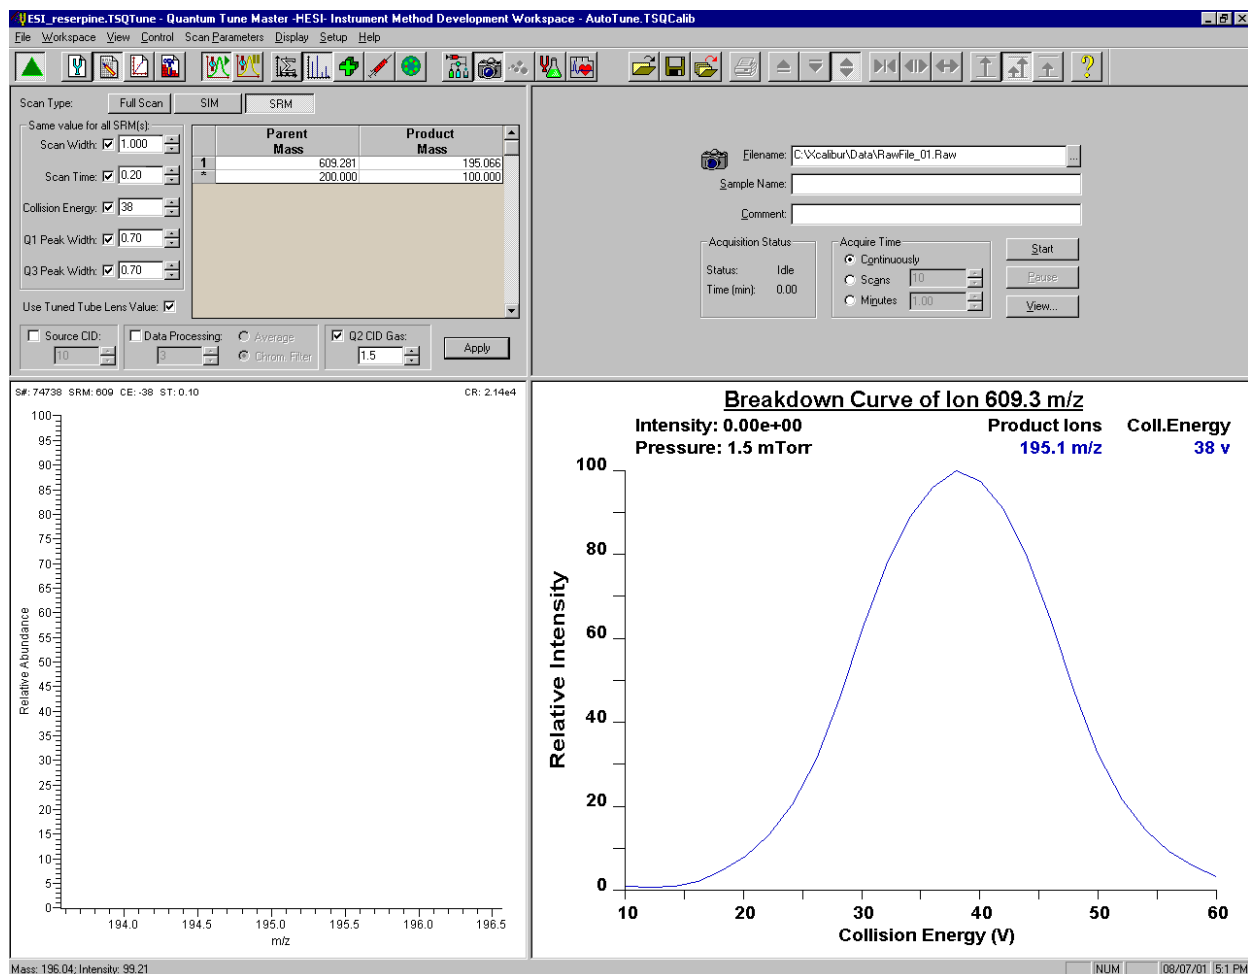

Figure 5-8. Instrument Method Development workspace
4. On the Control / Scan Mode toolbar, click on the Instrument Method Development Workspace button to open the Instrument Method Development workspace. See Figure 5-8.